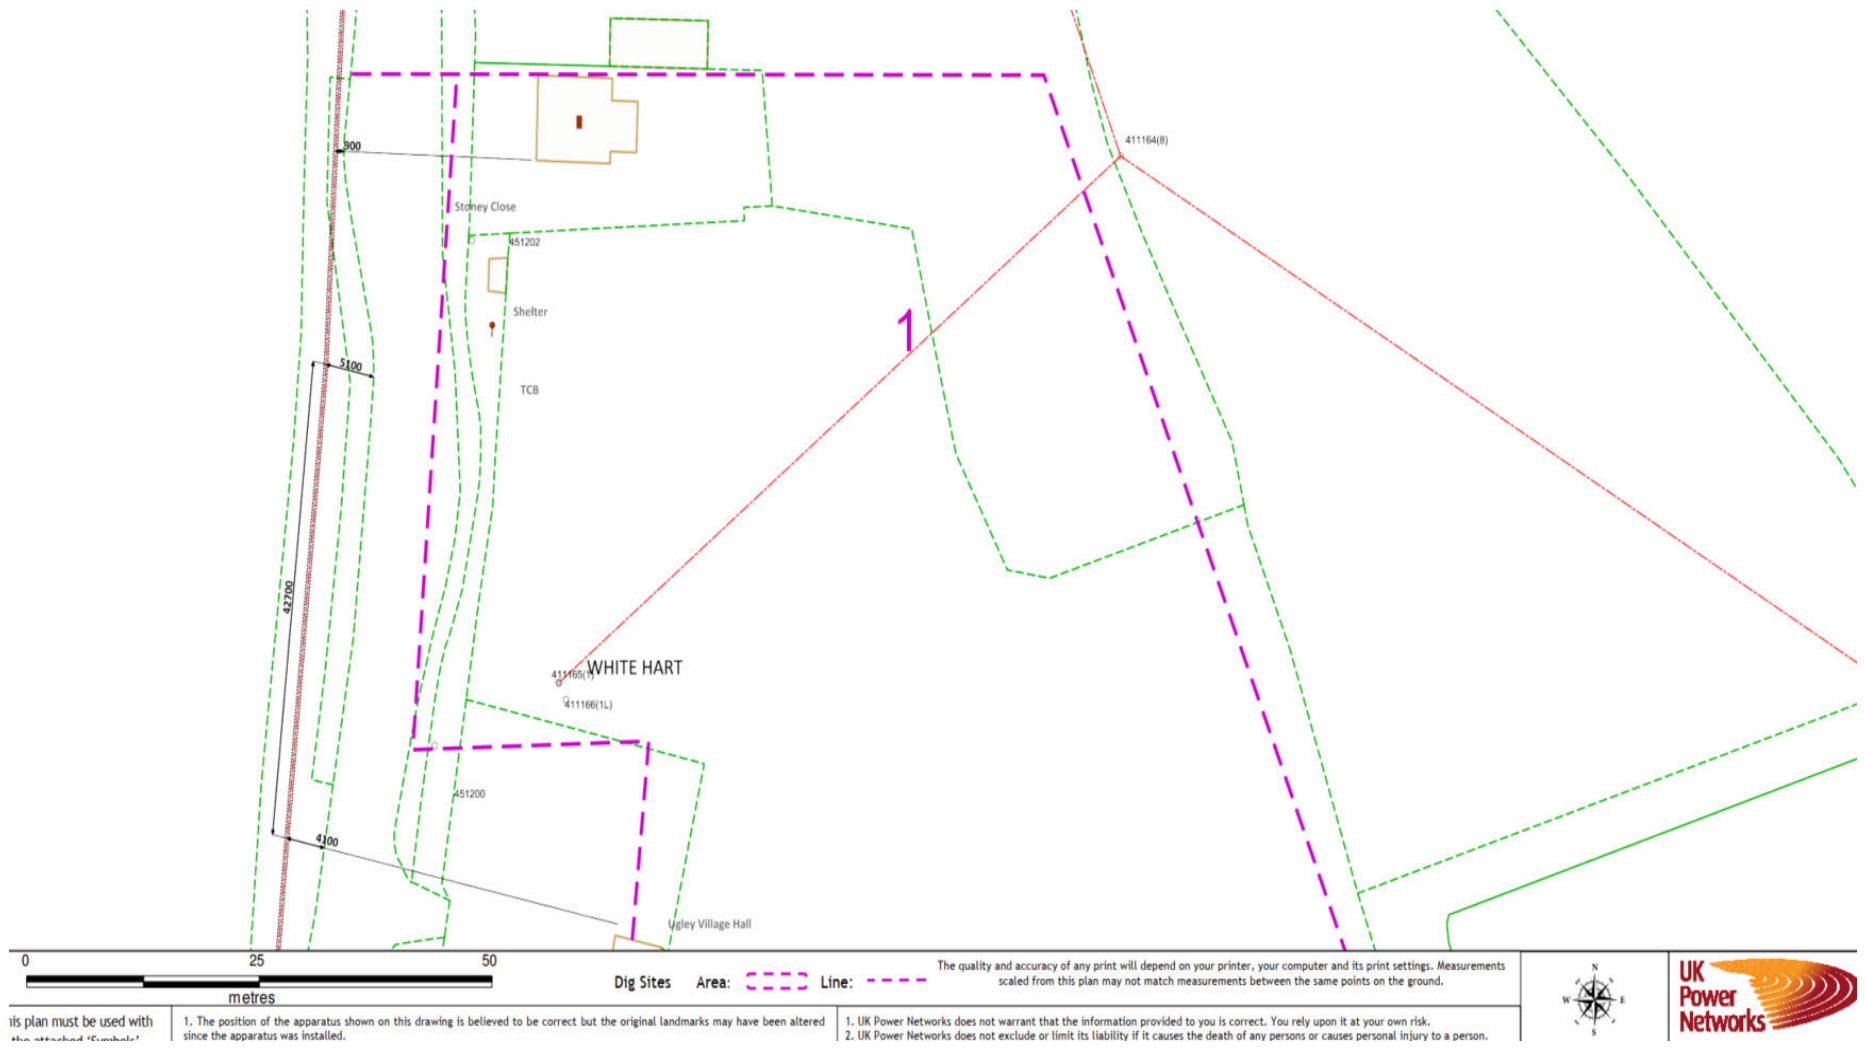

Fig. 1 UKPN Overhead cable
- UKPN Overhead cables – broadly running diagonally south west to north east across the site – indicated in Figure 1 below